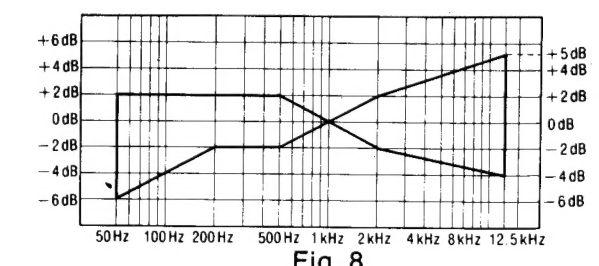

Fig. 8
5. After that increase the signal recorded on CrO2 blank tape (QZZCRX) and metal blank tape (QZZCRZ) up to 12.5kHz and adjust in the same way as mentioned above and check that the frequency level is within the range shown in Fig. 8.